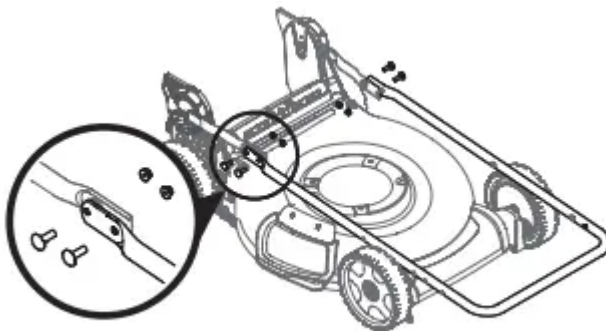

Figure 12
4. Using the four carriage bolts and nuts removed in STEP 2, secure the upper handle to the lower handle. Tighten hardware securely to secure the handle in place (Figure 12)